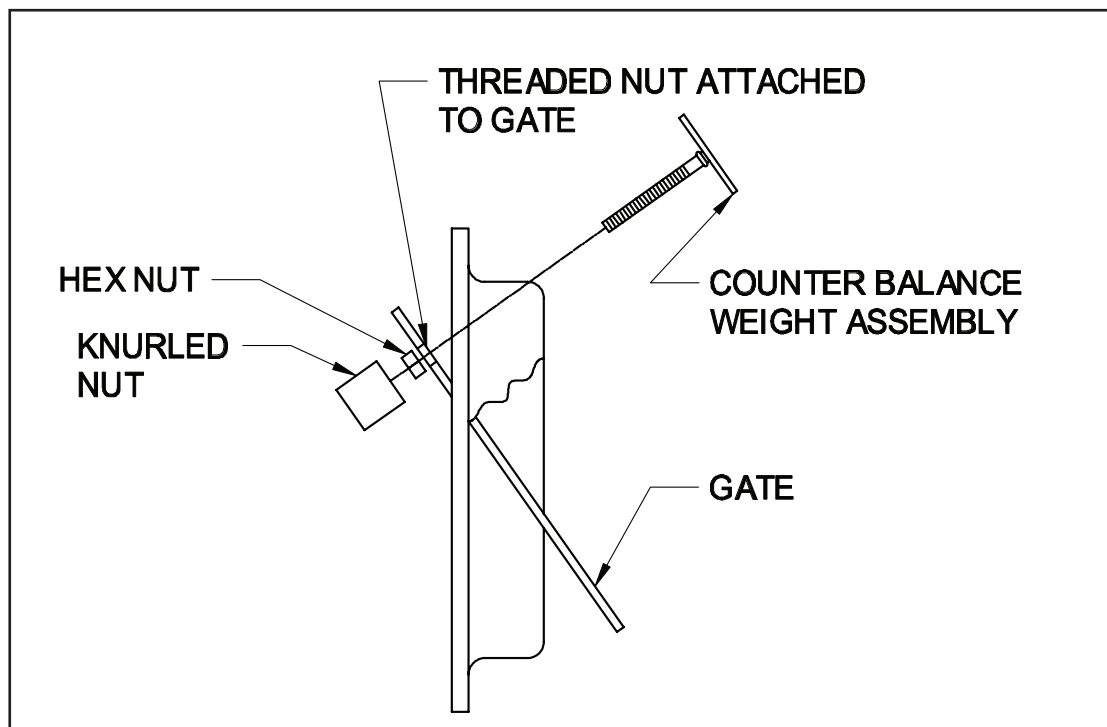

Figure 7
5. Assemble VRV balance weight onto the gate. Screw the weight all the way in. Then attach lock nut and knurl nut. (See Figure 7)